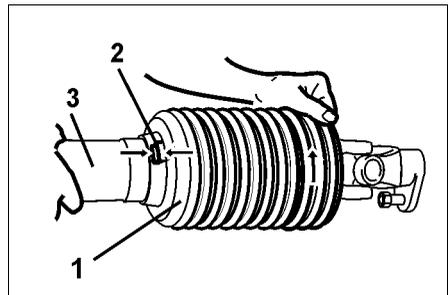

Fig. 21
- Twist the funnel (Fig. 21/1) in fitting position (Fig. 21./2).
- Pull off guard cone (Fig. 21/3)